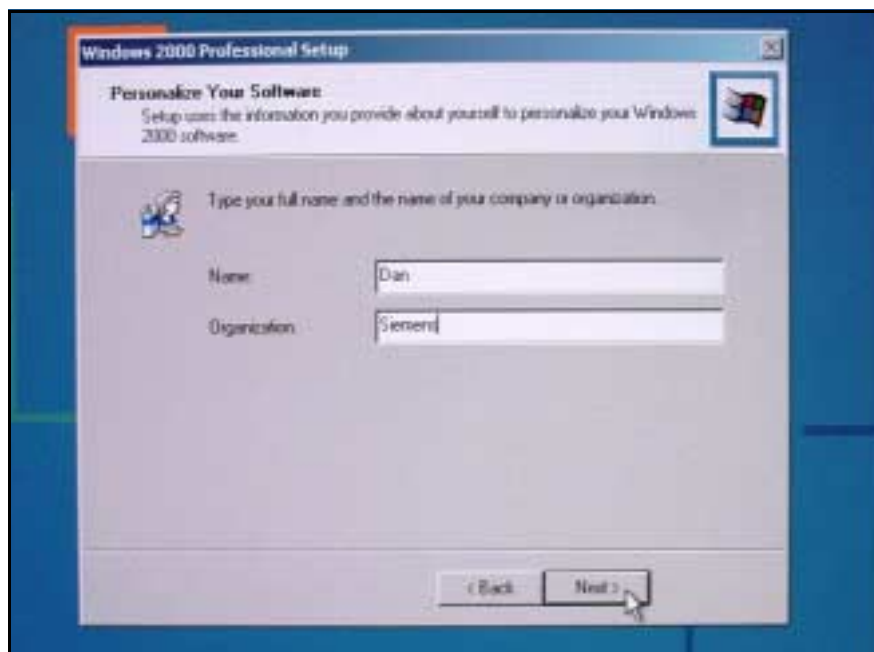

Figure 8-28 Personalize screen
- 18) At "Personalize Your Software" screen (see Figure 8-28), type in your name and Organization and click on *Next*.